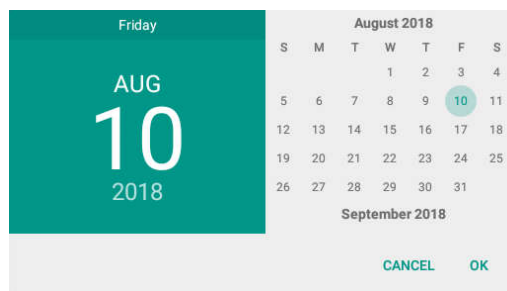

Fig 4.43 Set date
①“Automatic date & time”: It needs to connect the internet to calibrate time automatically, it is unavailable at present.
②“Automatic time zone”: It needs to connect the internet to calibrate time zone automatically, it is unavailable at present.
③“Set date”: Click it enter the date setting interface as Fig 4.43 below.